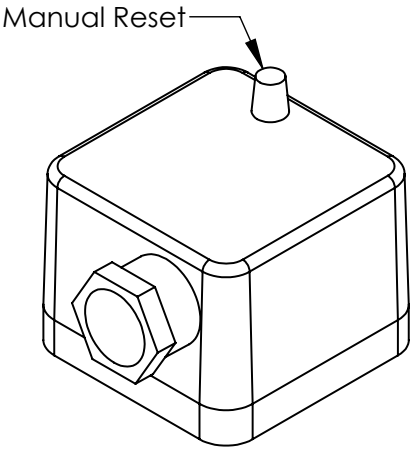

Figure 21: High/Low Gas Pressure Switch
10. If the high or low gas pressure switch tripped, it must be manually reset before the appliance can be restarted. (See Figure 21)